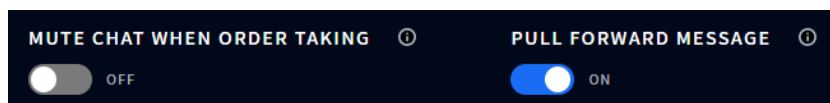

Fig. 1.16
**On/Off Toggles:** Tapping an **OFF/ON** toggle turns it on (if its current status is off, or off if its current status is on). Fig. 1.16 shows two features, one in the OFF state, the other in the ON state).